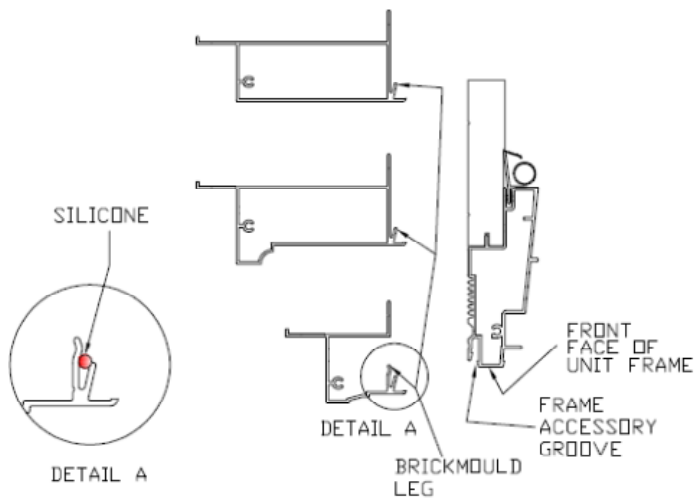

Fig. 1
2. Place the header brick mould leg into the frame groove (Fig. 1) measure and cut to proper fit.
3. With the header brick mould in place, install the side jamb part into the frame groove (Fig. 1), line-up the 45 degree cuts at the header and top of the side jamb and measure and cut the side jambs to proper fit. Repeat step 3 on the other side.